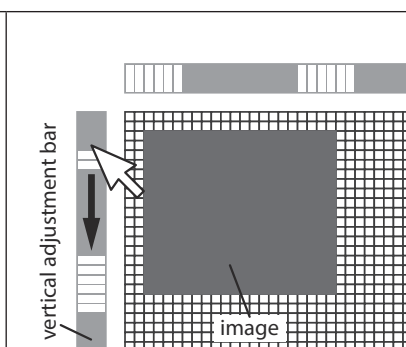

Fig. 100
3. To de-select the 'pixel zone' click and hold down on the left mouse button whilst moving the cursor down and the individual pixels will 'grey out' (de-select) one by one as the cursor continues to move back down the bar, as shown in **Fig.100**.